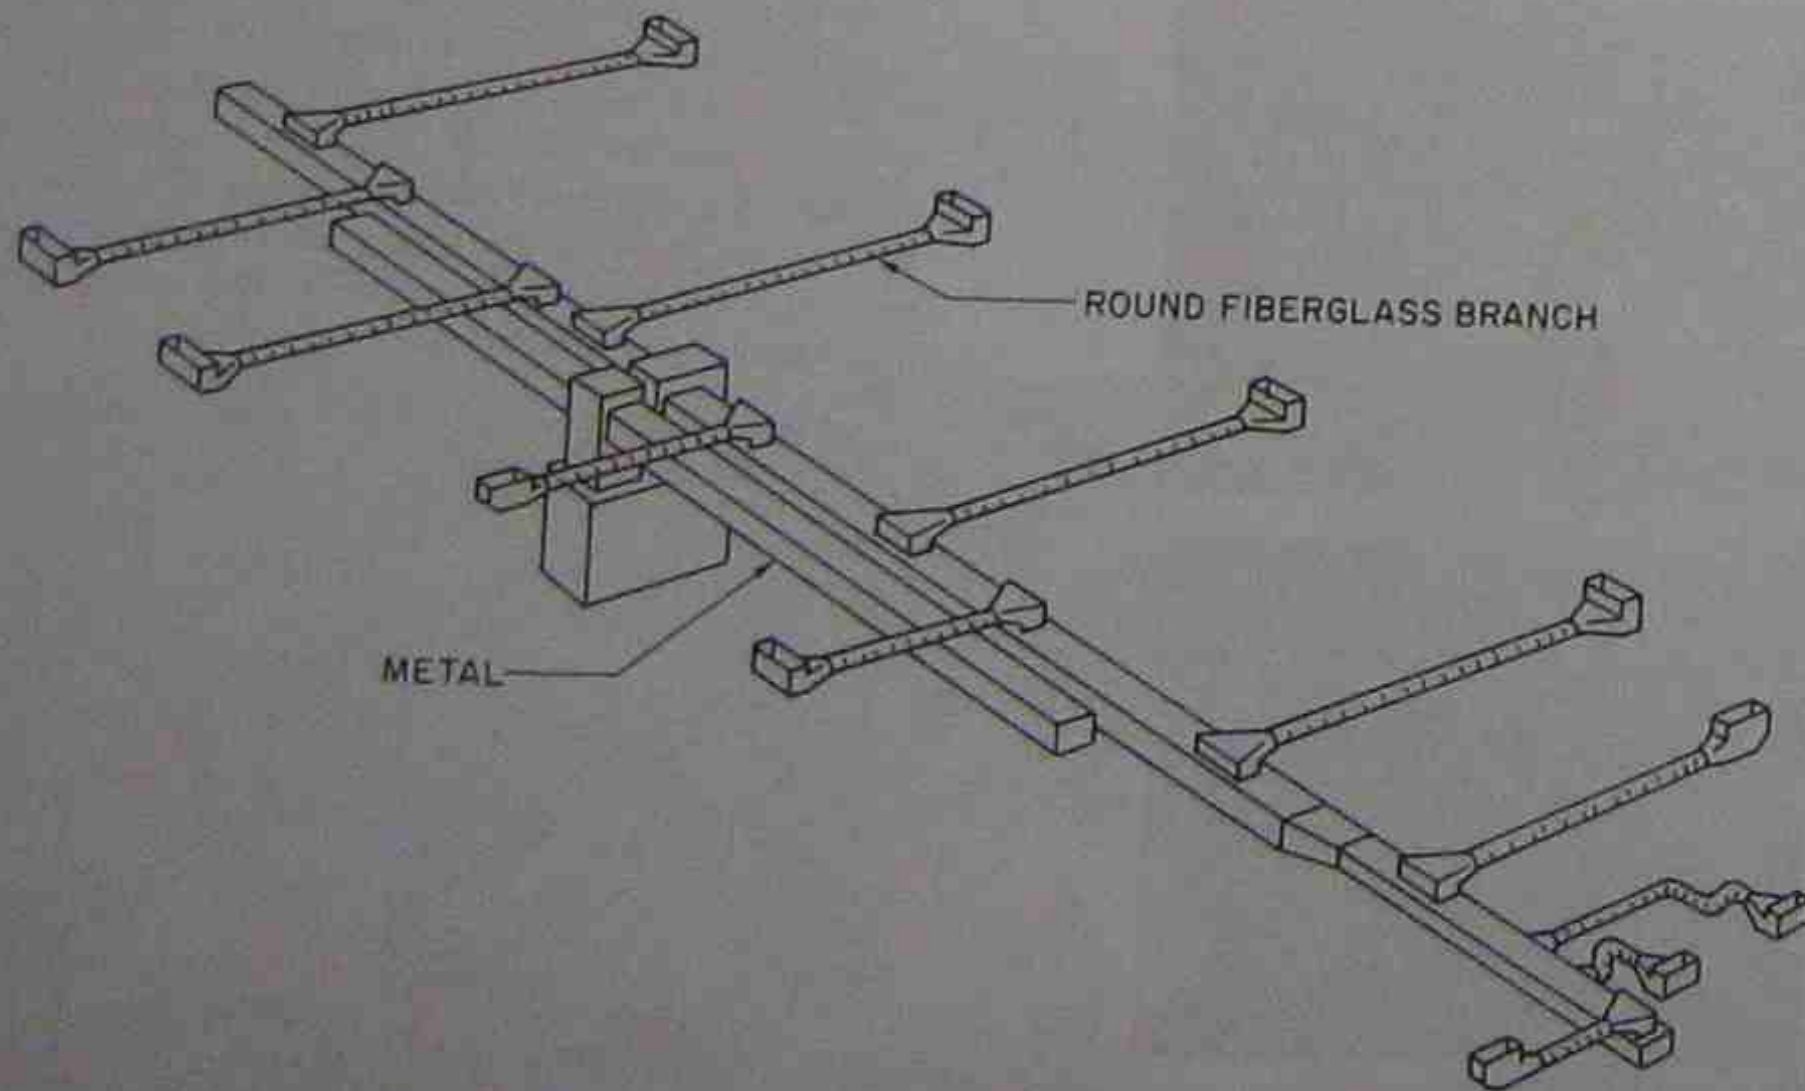

Figure 39-36. Metal trunk duct with round fiberglass branch ducts.
3. Metal trunk lines with round fiberglass branch duct, Figure 39-36.